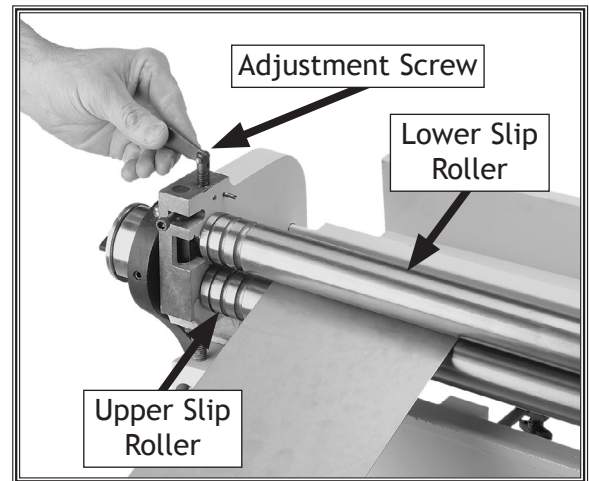

Figure 13. Adjusting upper and lower cylinder gap.
3. Insert the leading edge of the workpiece between the upper and lower roll cylinders, as shown in **Figure 13**.